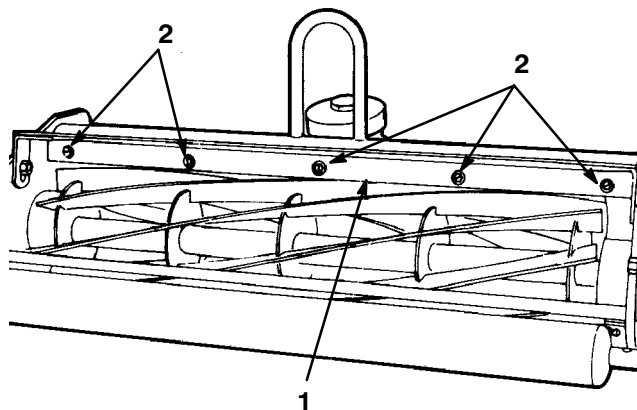

Figure 9
1. Loosen the screws securing the top bar (Fig. 9). Insert a .06 in. (1.5 mm) feeler gauge between the top of the reel and the bar and tighten the screws (Fig. 9). Ensure that the bar and reel are an equal distance apart across the entire reel.